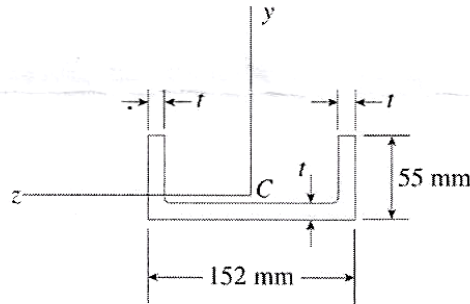

Figure 7b
7.a. State the assumption in theory of simple bending and derive the flexure formula. (8)
b. A beam having a cross section in the form of channel (see figure 7b) is subjected to a bending moment acting about the axis . calculate the thickness of the channel in order that the bending stresses at the top and bottom of the beam will be in the ratio 7:3, respectively. (8)